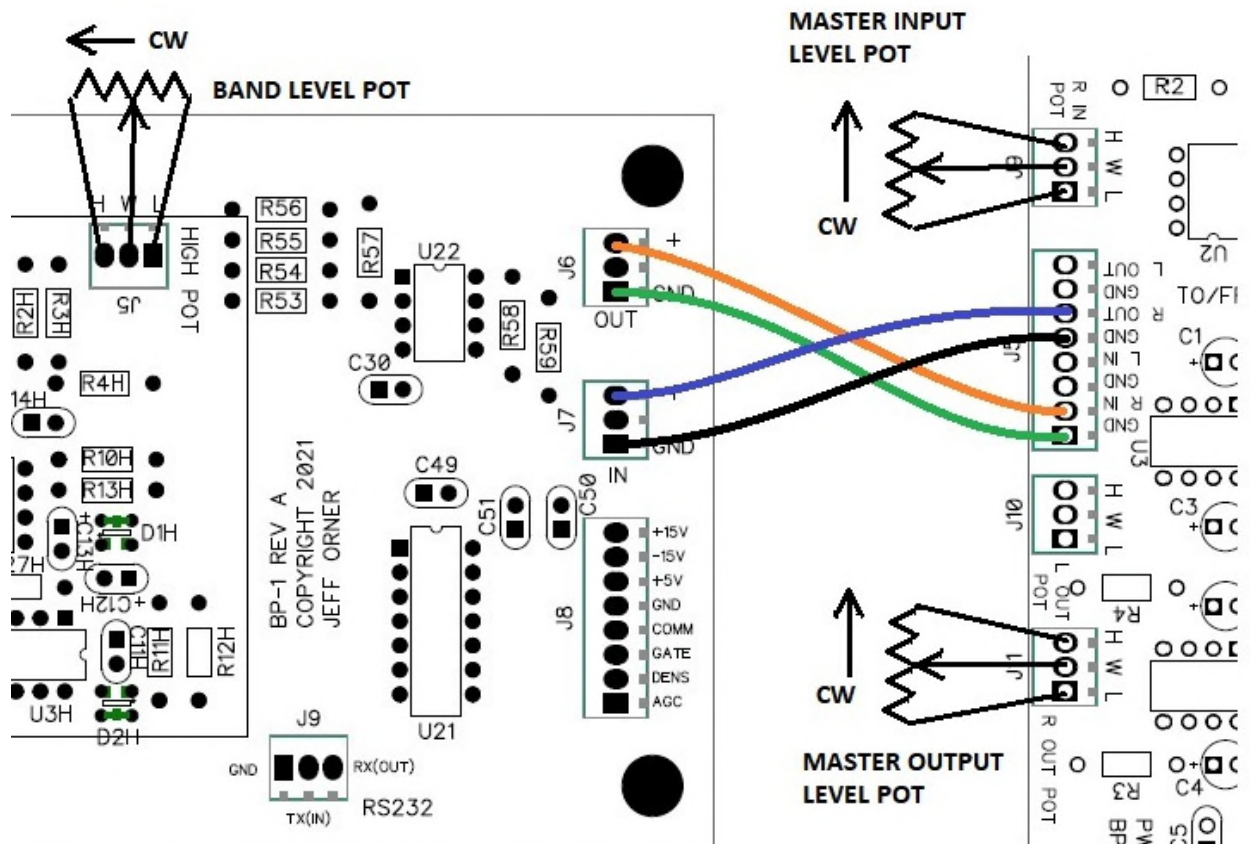

Figure 2
2. The audio inputs and outputs connect directly from the BP1 3 terminal blocks directly to the appropriate inputs and outputs on the MB1. Shown is the right channel; the left is connected similarly. The band pot connection is shown with the pot rotation. In all cases "H" is the high or clockwise side of the pot, "L" is counterclockwise and "W" is the wiper. If using dual gang pots the other channel connects to the adjacent section in the same manner. See Figure 2.